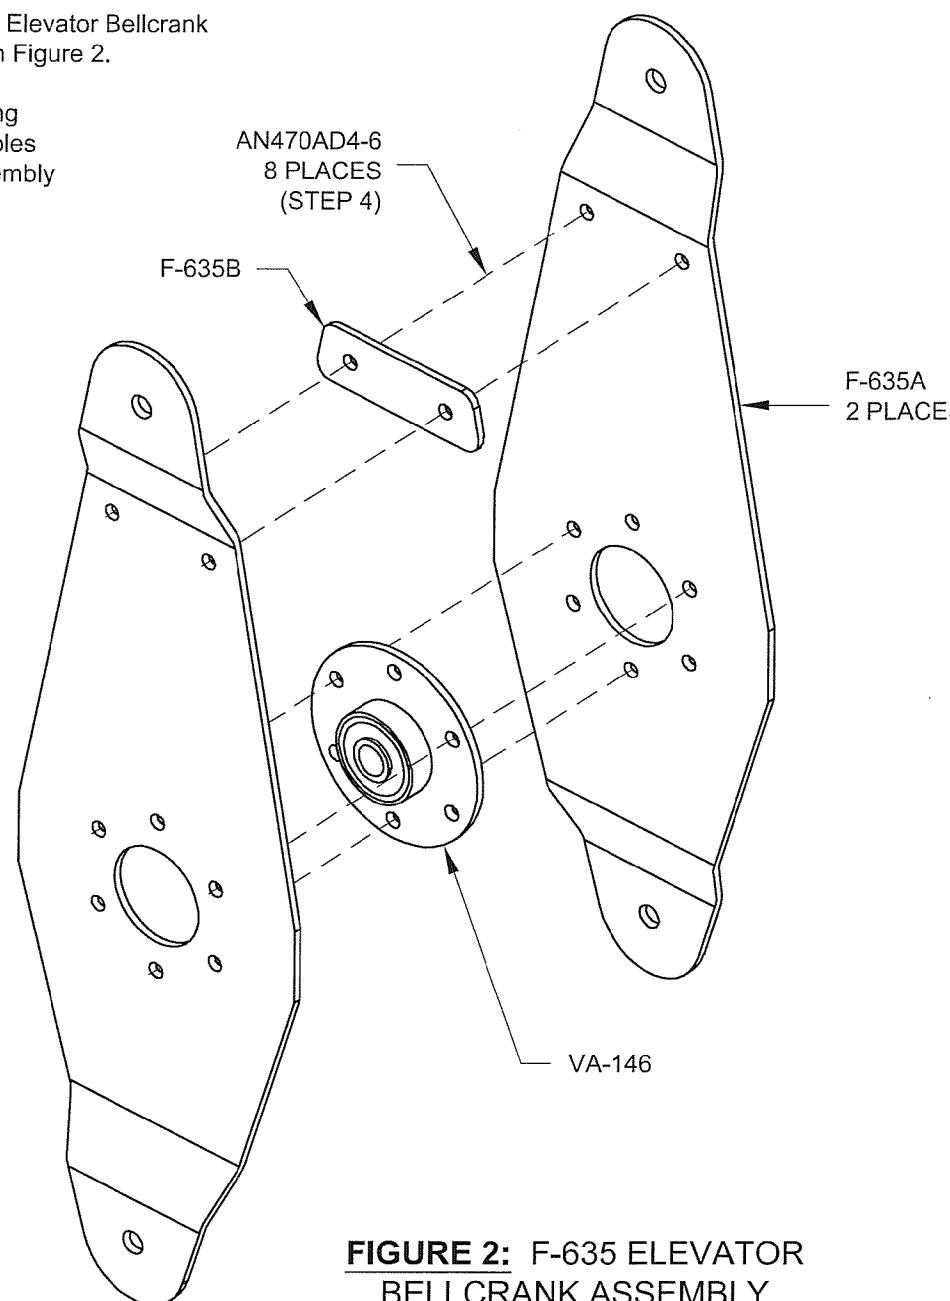

**FIGURE 1: SEPARATING THE F-635 BELLCRANK**
Step 1: Separate the F-635 Bellcrank into individual parts by removing the shaded areas shown in Figure 1.